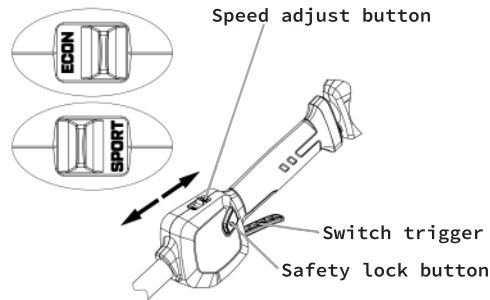

Fig.6
2. Press down the safety lock button and then depress the switch trigger to turn on the trimmer. (Fig.6)
2. Push the “SPORT” button for high speed use and to the “ECON” for low speed. (Fig.6)